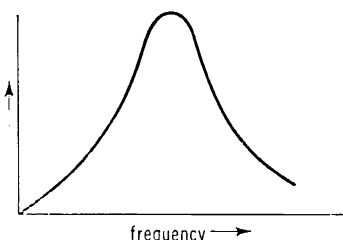

Fig. 395
22. Could Fig. 395 represent the variation of current or impedance in (a) a series, (b) a parallel circuit?